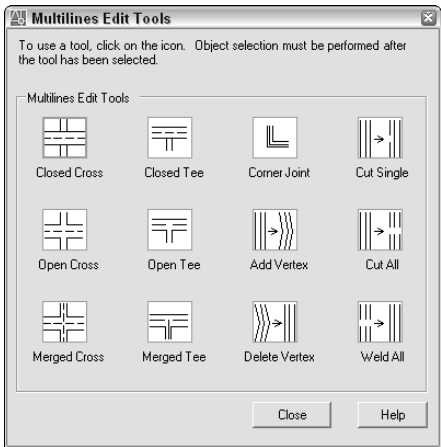

Figure 16-35: The Multilines Edit Tools dialog box.
- 3. At the Specify start point or [Justification/Scale/Style]: prompt, press Shift + right-click and choose the From object snap. At the Base point: prompt, choose ❶ in Figure 16-35. (If necessary, press Tab until you get the Intersection object snap.) At the <Offset>: prompt, type @0,-10' ↵.
To edit multilines, you use the MLEDIT command. To start MLEDIT, double-click the multiline (or choose Modify ⇨ Object ⇨ Multiline) to open the Multilines Edit Tools dialog box, shown in Figure 16-35.